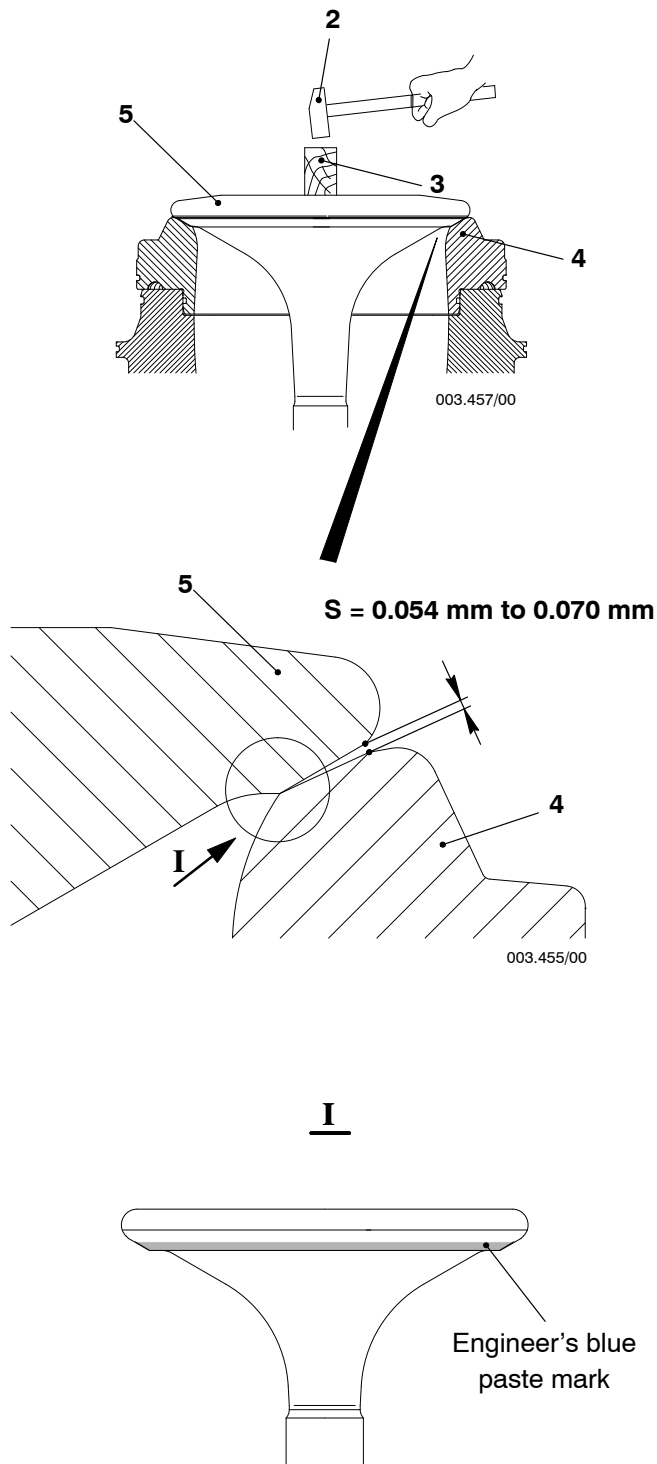

Fig. 5
- 1) Put a thin layer of engineer's blue paste on the sealing face of the valve spindle (5), see Fig. 5.
- 2) Put the valve spindle (5) in position in the valve guide bush.
- 3) Put the wooden block (3) on the valve spindle (5).
**Note:** During the step below, do not turn the valve spindle (5) because this can cause the sealing faces to catch.
- 4) Tap the wooden block (3) with the hammer (2) three or four times.
- 5) Use the feeler gauge (94122) to do a check of the clearance between the sealing faces of the valve spindle (5) and valve seat (4).
**Note:** The clearance between the valve spindle (4) must be as shown, ( $S = 0.054 \text{ mm to } 0.070 \text{ mm}$ ).
- 6) Remove the valve spindle (5) from the guide bush.